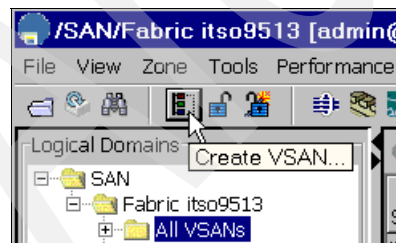

Figure 15 Create VSAN wizard
2. Select the **Create VSAN** wizard (Figure 15).